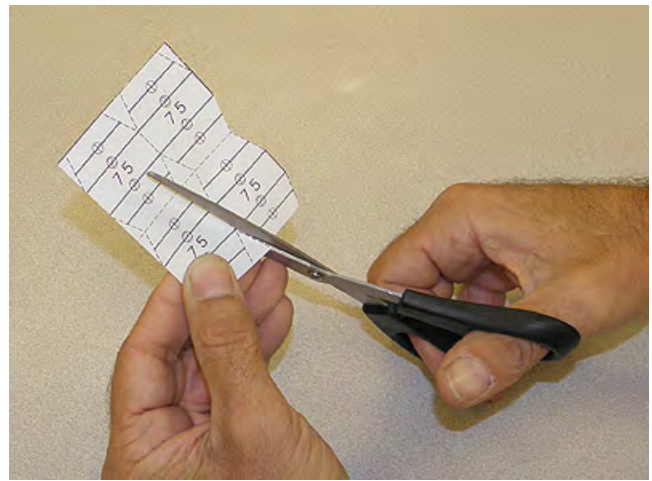

Figure 1
- Cut attached films provided in kit along the dotted lines (Figure1).